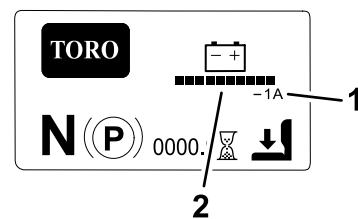

Figure 21
- **Main information screen (Figure 21):** shows current machine information while the key is in the ON position. This screen shows the battery-system charge level and the amperage.